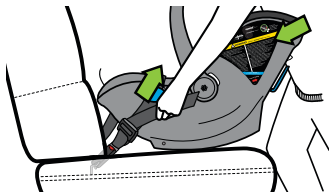

Figure 55
- Use your body to press the Carrier into the vehicle seat back while pulling free end of UAS Belt to tighten, as shown in **Figure 55**.